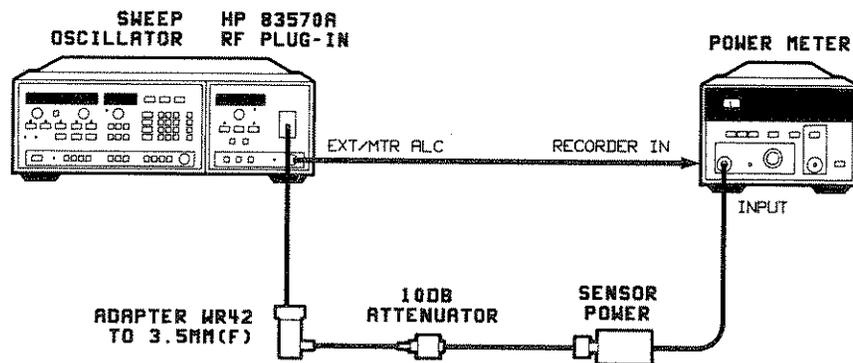

Figure 8-25. Power Meter Leveling Setup
- Attempt to level the power externally using the HP 436A power meter as shown in Figure 8-25, *Power Meter Leveling Setup*. Select MTR leveling, and enter a slow (at least 50 second) sweep time. If the RF power is now leveled, the failure is most likely in the detectors or the detector selection switch, A4U6. Refer to the following paragraph. If this is not the case, the problem may be in the two analog switches A4U3B and A4U6A. It may be necessary to perform the ALC adjustments in Section V, Adjustments.